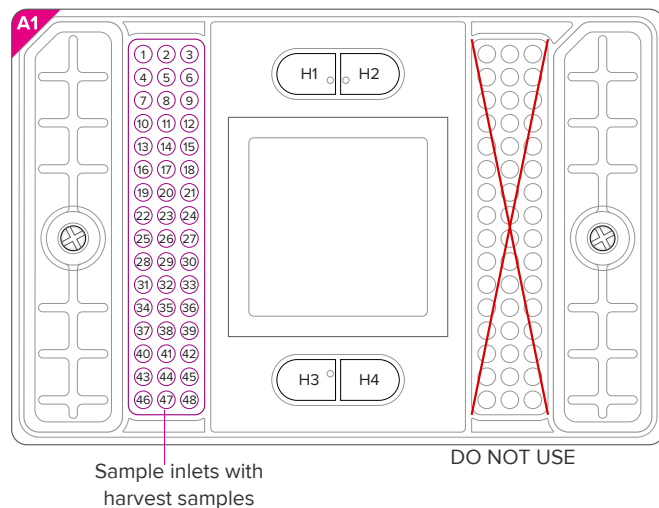

Figure 4. Map for harvesting samples from the LP–48.48 IFC
- Review the map for harvesting samples. (See Figure 4.)